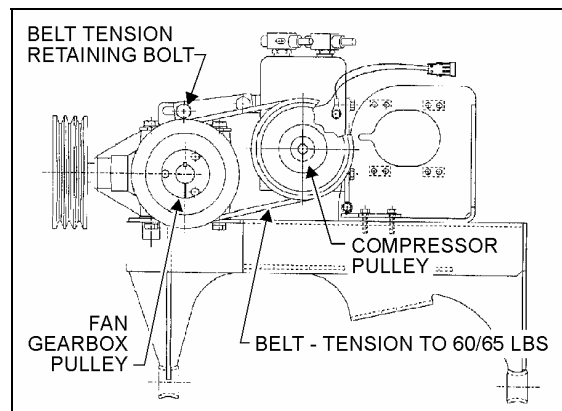

FIGURE 21: A/C COMPRESSOR (DRIVER'S OR AUXILIARY SYSTEM)
4. Tighten belt to 60/65 lbf•in (6,5/7 N•m) (Fig. 21), using a belt tension gauge, as per "Instruction Sheet IS94056", then tighten tension retaining bolt.